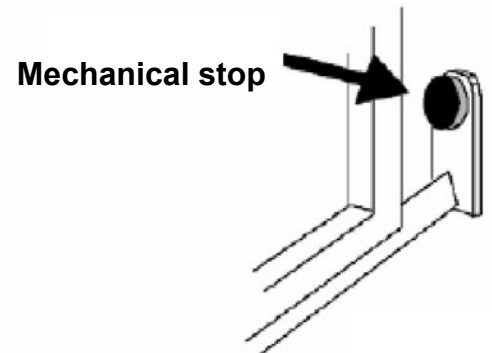
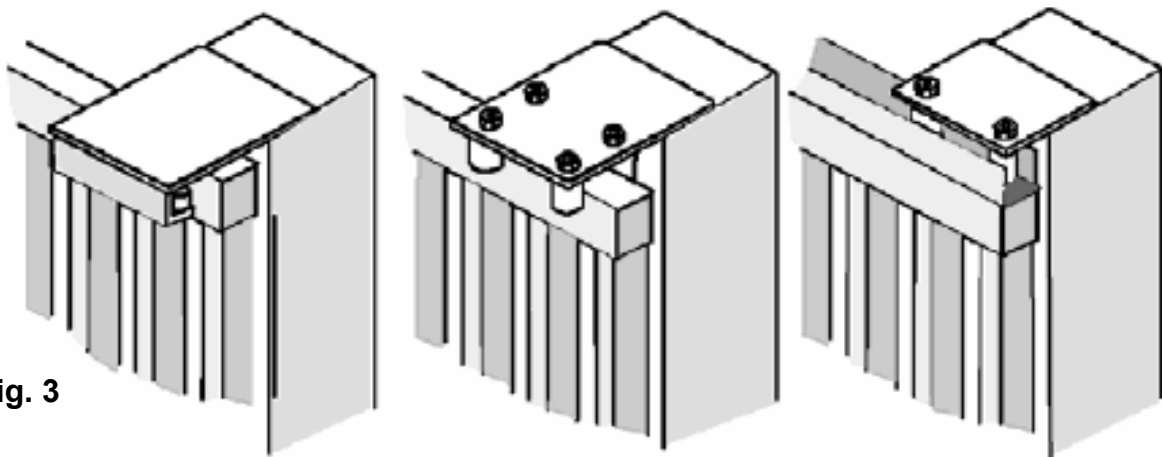

Fig. 2
Fig. 3
- Also check that the runner on the ground (**Fig. 1**) is not deformed, is perfectly level and that the mechanical stop is present on opening (**Fig. 2**) in order to **prevent** the gate from going beyond the upper runners (**Fig. 3**)
- Check the upper runner (**see Fig. 3**) is firm and the gate slides freely.
Position the operator and fasten it with the bolts provided. **A** (**Fig.2**).
Fasten the rack to the gate firmly, leaving a distance of between 2 and 3 mm from the motor pinion (**Fig.3**).